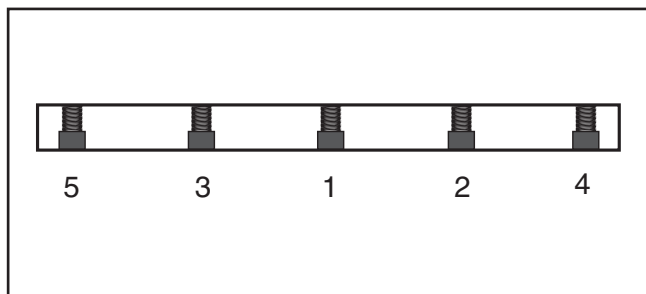

Figure 29. Gib bolt tightening sequence.
8. Rotate the cutterhead to the first knife you started with. Slightly tighten all the gib bolts by following the tightening sequence shown in **Figure 29**. Repeat this step on the rest of the knives.